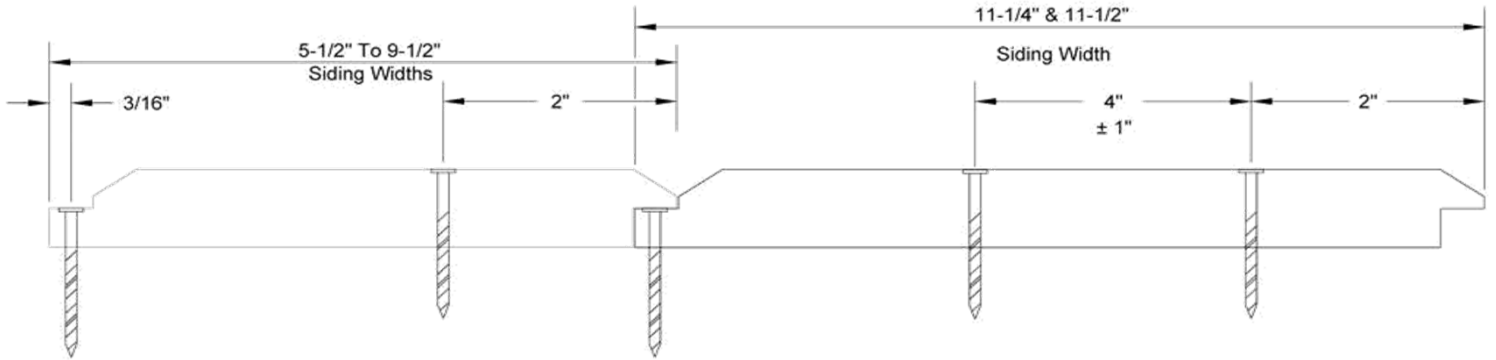

Figure 1
- Fasteners and fastening solutions for this product are shown in Tables 1 and 2 and Figures 1, 2 and 3 of this report.